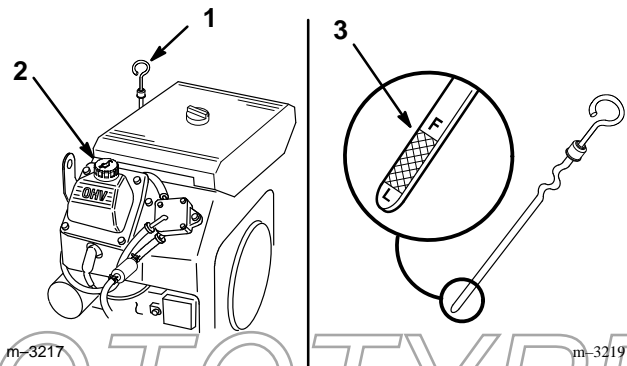

Figure 24
2. Clean around the oil dipstick (Fig. 24) so dirt cannot fall into the filler hole and damage the engine.
3. Unscrew the oil dipstick and wipe the metal end clean (Fig. 24).
4. Slide the oil dipstick fully into the filler tube (Fig. 24). Pull the dipstick out and look at the metal end. If oil level is low, slowly pour only enough oil into the filler tube to raise the level to the “FULL” mark.
5. Slowly pour approximately 80% of the specified amount of oil specified, page 36, into the filler tube (Fig. 24). Now check the oil level; refer to Checking Oil Level, page 36. Slowly add additional oil to bring to "FULL" mark on dipstick.